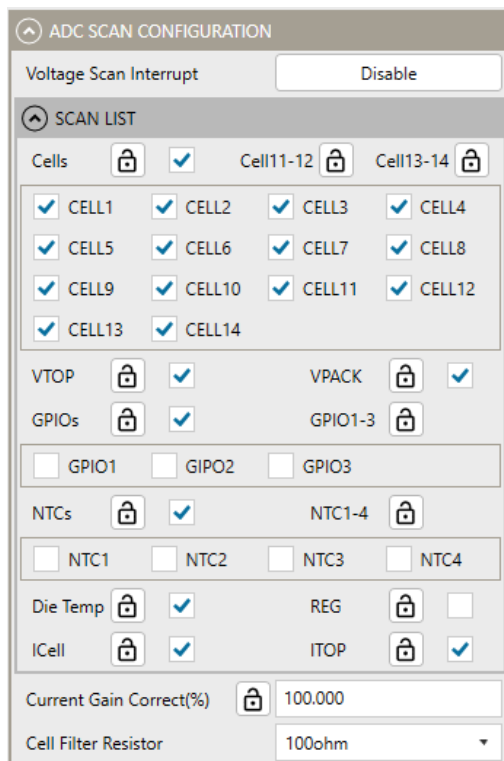

Figure 14: ADC Scan Configuration
- Output:** The output parameter for GPIO1, GPIO2, and GPIO3 determines whether the GPIOx target output level is high or low. Set the GPIOx target output level to either high (H) or low (L). This bit can only be configured while the corresponding GPIOx pin is functioning as a digital output.
- GPIO1HV:** The output parameter for GPIO1HV determines whether the GPIO1HV target output level is high (H) or low (L). This bit can only be configured while GPIO1HV is functioning as a digital output and GPIO1HV_HZ = 0. If "HIZ" is selected, then GPIO1HV is in Hi-Z mode. In this mode, GPIO1HV ignores GPIO1HV_O, and the bypass P-channel MOSFET turns off. If "HIZ" is not selected, then GPIO1HV is controlled in output mode following GPIO1HV_O, and the bypass P-channel MOSFET turns on once the output is low.
6. Figure 14 shows the ADC Scan Configuration settings in the GUI.